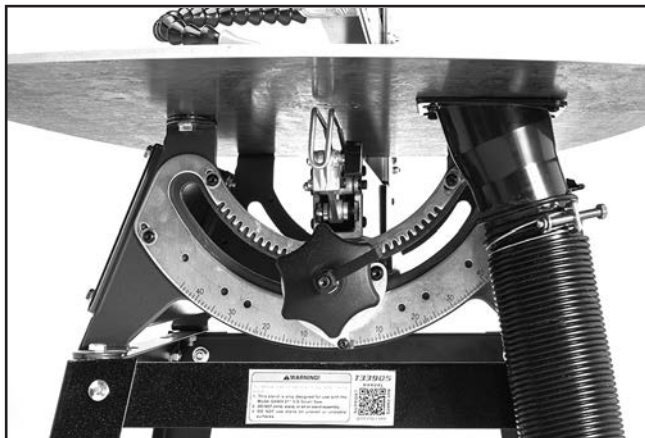

Figure 12. Dust port and dust hose attached to dust port.
1. Fit 2½" dust hose over dust port and secure in place with hose clamp (see **Figure 12**).